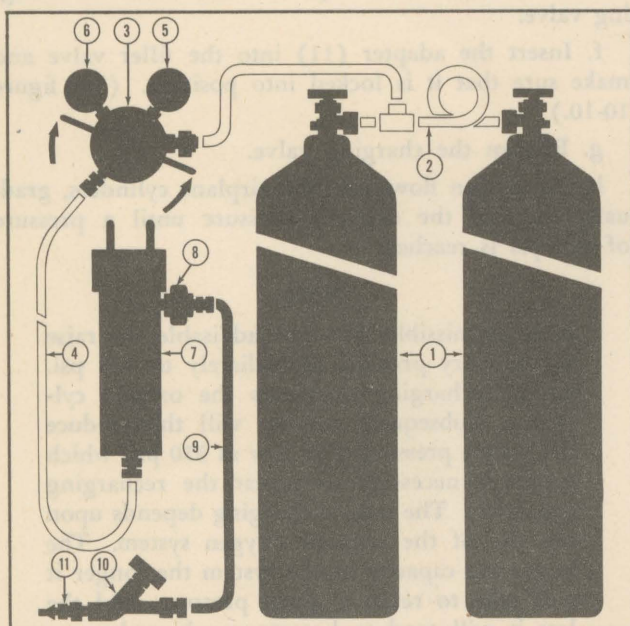

Figure 8-1. Essential Parts of a Low-Pressure Recharger Apparatus
8-2. All types of equipment for recharging low-pressure oxygen systems include the following basic components: (See figure 8-1.)
b. (See figure 8-1.) Make sure that pressure-adjusting screw of the regulator (3) is screwed out counter-clockwise (to the left) until it turns freely. This *closes* the regulator valve.
c. Open the valves of the supply cylinders, very slowly, one at a time. Open any manifold valves necessary to connect the supply cylinders with the pressure regulator. The gage (5) now shows the supply pressure.
d. Turn the pressure-adjusting screw on the regulator clockwise (to the right) until the delivery pressure gage (6) registers 150 psi.
e. Open the charging valve (10) at the end of the flexible hose, in order to blow out any dirt that may have collected in the adapter. Then close the charging valve.